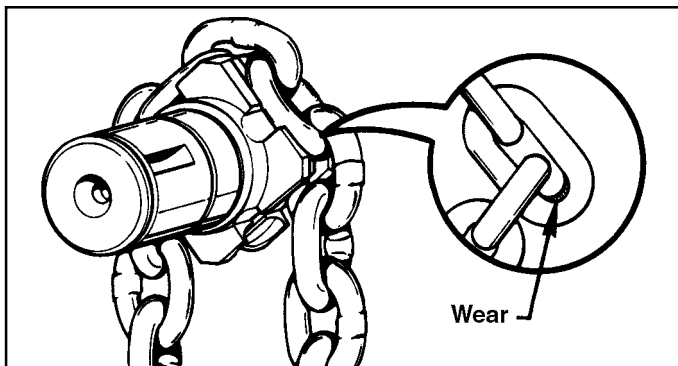
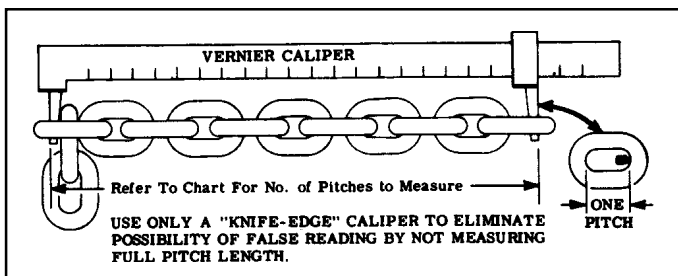

Figure 5-1. Check Chain Wear at Bearing Surfaces Between Links
Figure 5-2. Check Coil Chain Using Vernier Caliper
(2) **Link Type Load Chain.** Clean chain for inspection. Examine visually for gouges, nicks, weld spatter, corrosion or distorted links. Slacken chain and check bearing surfaces between links for wear, fig. 5-1. Greatest wear will often occur at sprocket at high or low point of lift, particularly when hoist is subjected to repetitive lifting cycles. Case hardness of chain is about .015" deep. Chain must be replaced before the case is worn thru. Also check chain for elongation using a vernier caliper (fig. 5-2). Select an unworn, unstretched section of chain (usually at slack or tail end) and measure and record the length over the number of chain links (pitches) indicated in figure 5-2. Measure and record the same length of a worn section in the load side of the chain. Obtain the amount of wear by subtracting the measurement of the unworn section from the measurement of the worn section. If the result (amount of wear) is greater than the amount specified in the **"ALLOWABLE CHAIN WEAR"** table, the chain has elongated beyond the maximum allowable length and must be replaced. Chain with excessively pitted, corroded, nicked, gouged, twisted or worn links should be replaced using only factory approved chain. Never weld or attempt to repair link chain.